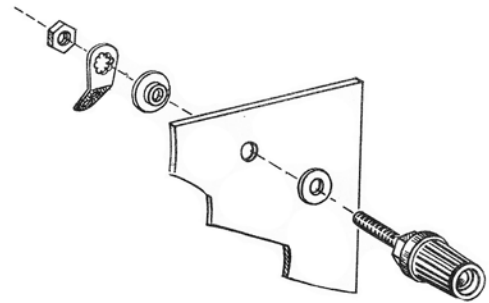

Figure 13
- () Referring to Figure 13, mount the binding posts in positions BP-1, 2, 3, 4.